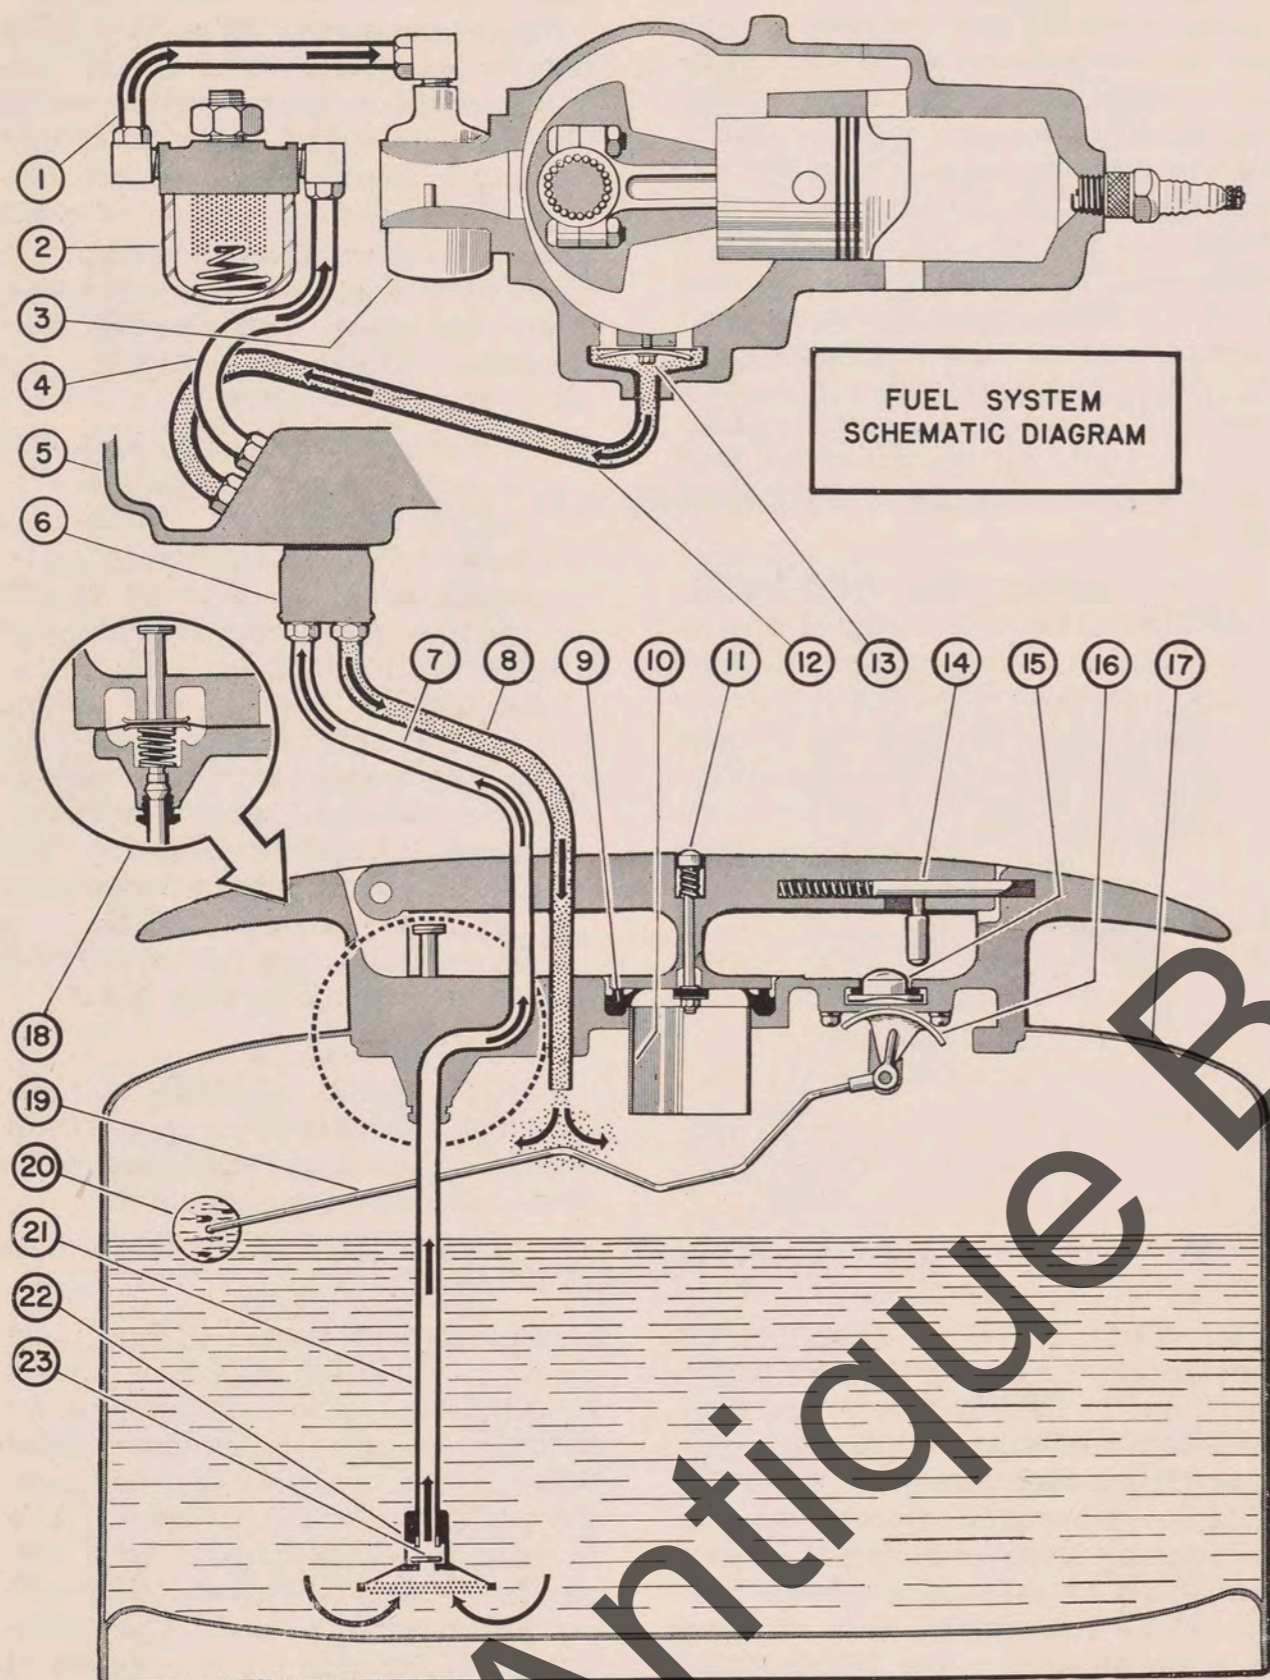

Figure 1
4-1. **FUEL SYSTEM.** Operation of fuel system is shown schematically in Figure 1. Carburetors (3) are connected to fuel tank (17) through fuel filter (2), by fuel lines (1), (4) and (7). Fuel flow from tank to carburetors is induced by pressure transmitted from crankcase to air space above fuel line level via air line (12), running from pressurized valve (13) to twist connector (6) on cowl (5), thence via air line (8) to top of fuel tank. For starting, initial fuel flow to carburetors is induced by hand-operated priming pump (18). Disc filter (22) is